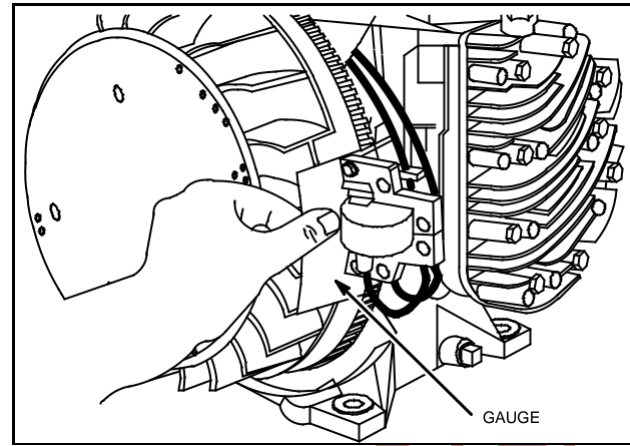

Fig. 14 – Adjust Air Gap
2. Place thickness gauge between magnet and armature laminations, Fig. 14.